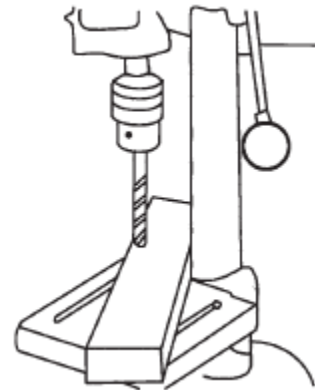

Figure 10-1
8. When drilling completely through the workpiece, place a piece of scrap wood between the material and the table to prevent splintering on the underside as the drill breaks through. The scrap piece of wood must make contact with the left side of the column (see Figure 10-1). Securely clamp the other end of the scrap wood to the table. Also, set the drill